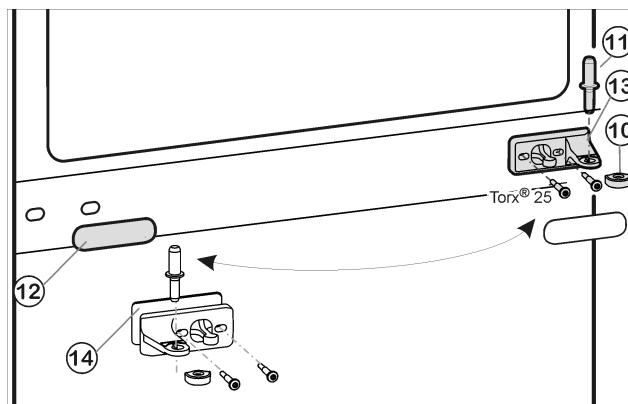
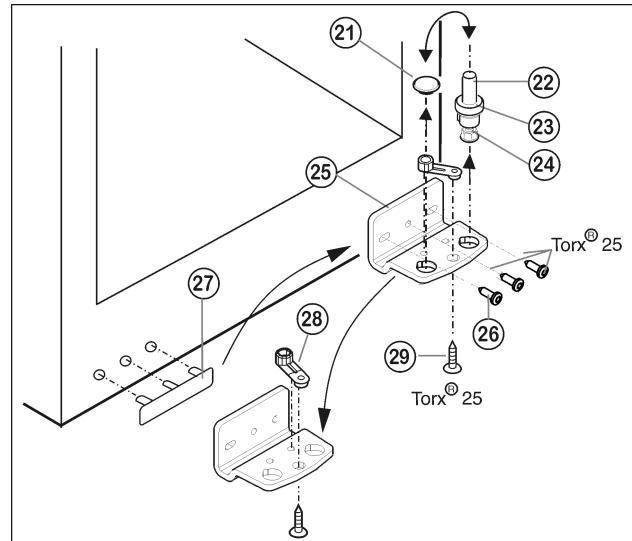

Fig. 5
Fig. 6
- ▶ Remove the center bearing pin *Fig. 5 (11)* from the bearing bracket and the lower door.
- ▶ Remove the plastic cap *Fig. 5 (10)*.
- ▶ Unscrew the middle bearing bracket *Fig. 5 (13)* (2 Torx® 25 screws).
- ▶ Carefully remove the cover trim *Fig. 5 (12)*.
- ▶ Screw the middle bearing bracket *Fig. 5 (13)* with the supporting plate *Fig. 5 (14)* turned 180° onto the new hinge side (**4 Nm**).
- ▶ Turn the cover trim *Fig. 5 (12)* 180° and snap it back into place on the new handle side.
- ▶ Unscrew the bearing pin *Fig. 6 (22)*, including the washer *Fig. 6 (23)* and adjustable foot *Fig. 6 (24)*, all the way and pull it out.
- ▶ Remove the plug *Fig. 6 (21)*.
- ▶ Unscrew the *Fig. 6 (25)* bearing bracket *Fig. 6 (26)*.
- ▶ Unscrew *Fig. 6 (28)* the bearing part *Fig. 6 (29)* and swap it over to the opposite positioning hole; then screw it in place.
- ▶ Carefully lift off the cover on the handle side *Fig. 6 (27)* and move it to the opposite side.
- ▶ Using a cordless screwdriver if necessary, secure the bearing bracket *Fig. 6 (25)***tightly (to 4 Nm)** on the new hinge side.
- ▶ Insert the plug *Fig. 6 (21)* into the other hole.
- Insert the bearing pin *Fig. 6* (22), including the washer and adjustable foot, all the way. Make sure the detent lobe is pointing toward the back.
- Position the lower door from above onto the bearing pins below *Fig. 6* (22).
- Place the plastic cap *Fig. 5* (10) back onto the center bearing bracket *Fig. 5* (13).
- Insert the center bearing pin *Fig. 5* (11) on the new hinge side through the center bearing bracket *Fig. 5* (13) into the lower door.
- Place the upper door onto the center bearing pin *Fig. 5* (11).
- Align the doors flush with the appliance housing, using the two oblong holes in the lower bearing bracket *Fig. 6* (25) and in the center bearing bracket *Fig. 5* (13) as a guide, if needed. To do so, unscrew the center screw on the lower bearing bracket *Fig. 6* (25).